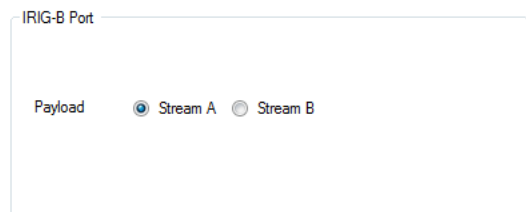

Figure 22 - IRIG-B “Payload” and multiple streams
*“Payload” radio button:* On Clocks which support multiple IRIG-B channels, an additional field called “Payload” will be present. Refer to Figure 22. This feature allows the clock to be configured with two different IRIG-B streams which are generated independently from each other. This is sometimes used when two IRIG-B time bases are required (Local Time and UTC Time), or when different IRIG-B extensions are required on each stream. The user can select “Stream A” or “Stream B” using the applicable radio button. Refer to the IRIG-B sub-tab section for further information.